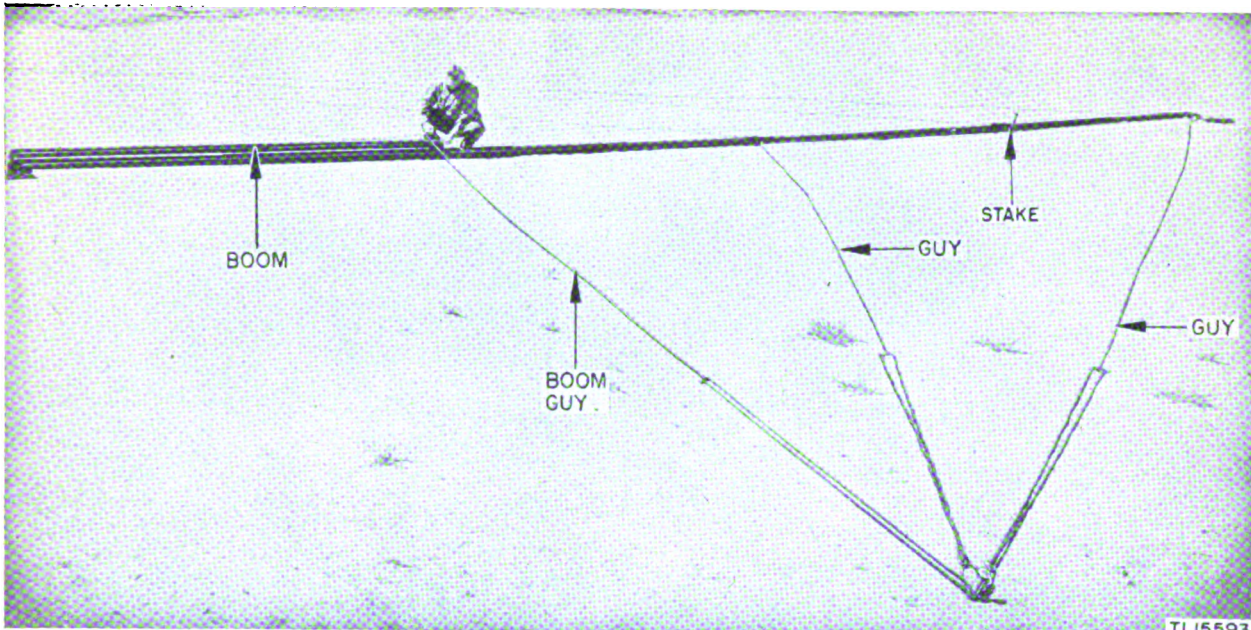

Figure 16. Boom guy detail.
b. Attach the two boom guys to the stakes at both sides of the mast as shown in figure 16. Adjust the Fasteners FT-9 to make the guys taut, while boom is still lying on mast.